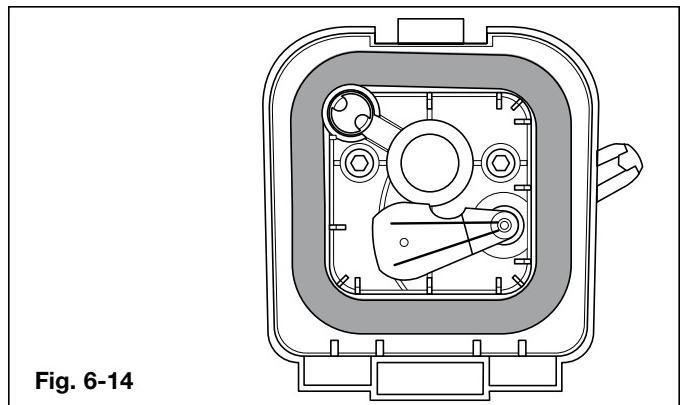

Fig. 6-14
6. Reinstall the filter (Fig. 6-14).